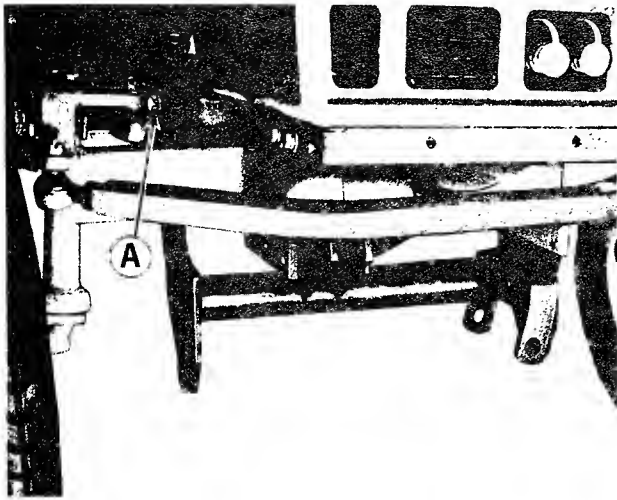
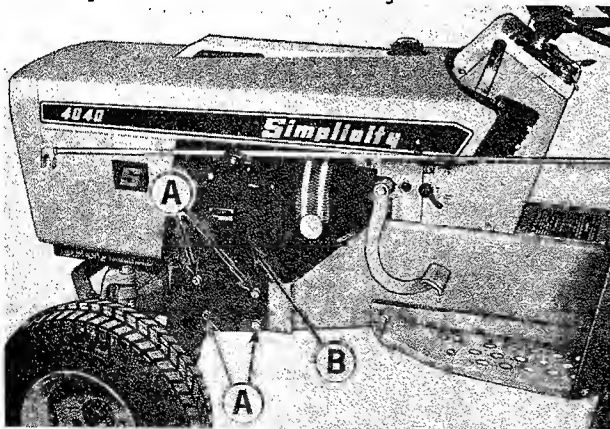

Figure 1. Hitch assembly installed on tractor.
Figure 2. Angle control arm installed on tractor.
1. See figure 1 and 2. If the hitch for front mounted attachments is not on the tractor, use eight capscrews (A) and lock washers to mount the hitch assembly. Install the control arm bracket (Item B) shown in figure 2 under the two rear capscrews and lock washers (A). Tighten the eight capscrews securely to prevent the hitch assembly from moving when the snow plow and dozer blade is being used.
7. See figures 1 and 2. Remove the eight capscrews (A) and remove the hitch for front mounted attachments from the tractor.
2. Check the snow plow and dozer blade carefully to be sure it is properly installed and the eight capscrews Item A in Figure 1 and 2 are securely tightened.